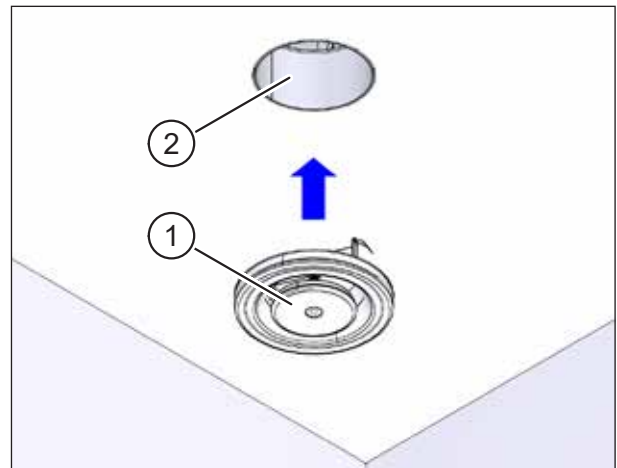

Fig. 19: Inserting poppet valve (extract air)
- ▶ When installation is complete (after painting, etc.), insert the appropriate poppet valve for extract air (item 1 in Fig. 19) or supply air into the ventilation pipe for the ceiling box as shown in the planning documents.